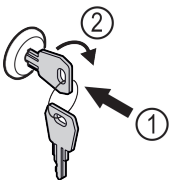

Fig. 125 Example illustration
- ▶ Insert key Fig. 125 (1).
- ▶ Turn key clockwise by 90° Fig. 125 (2).